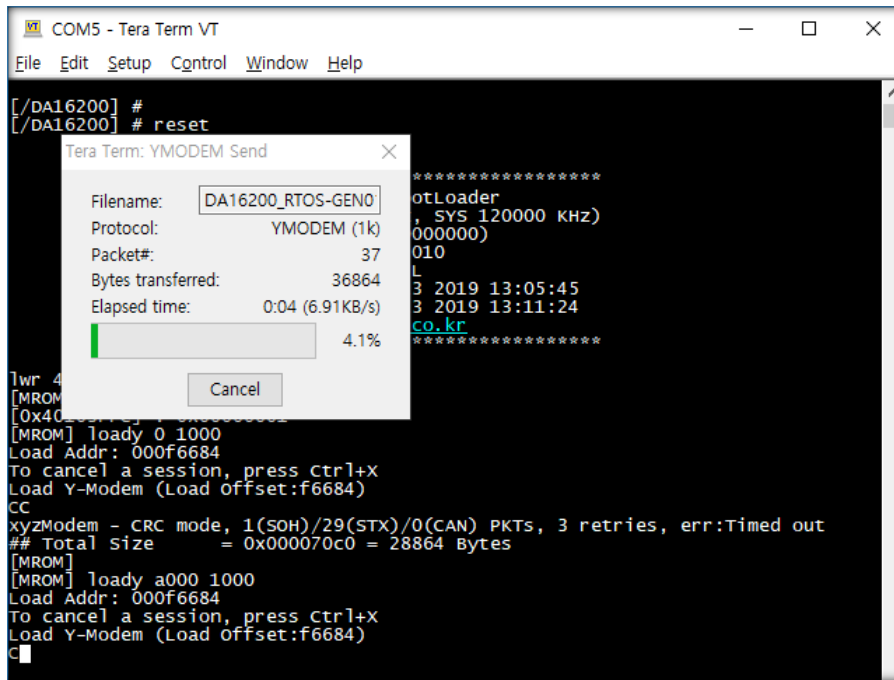

Figure 13. Programming FRTOS image
4. Program RTOS image as shown in Figure 13.